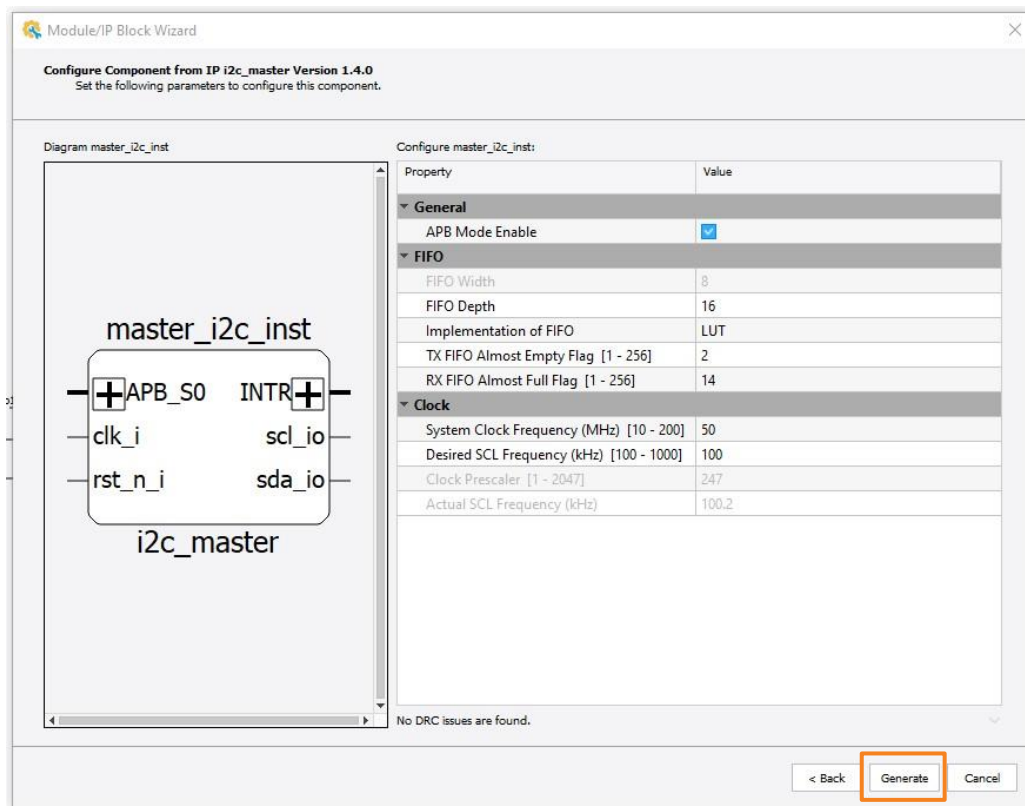

Figure 3.8. Propel Builder – Configure I²C IP
- The IP configuration window will appear as shown Figure 3.8. Edit the settings and click **Generate**.